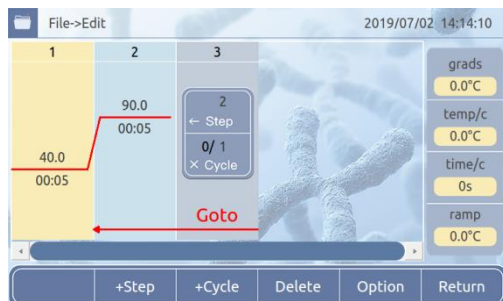

Figure 6
- a. Select the file to be edited in the file library, click the "Edit" button to enter the editing interface, the temperature is on the top of the temperature curve and time is below the temperature curve. Click temperature or time to set its parameters through the number key (see figure 6). Click the "+Step" button and the "+Cycle" button to add temperature steps and cycle steps. (The maximum number of steps is no more than 30).